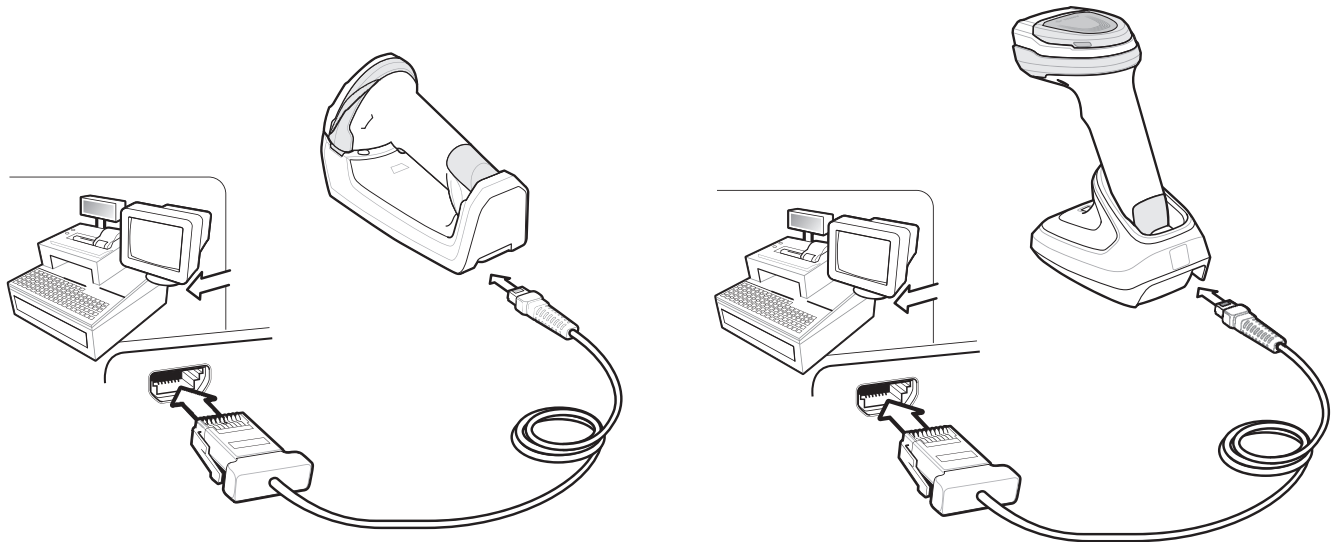

Figure 11-1 IBM Direct Connection
- ✓ **NOTE** Interface cables vary depending on configuration. The connectors illustrated in Figure 11-1 are examples only. The connectors may be different from those illustrated, but the steps to connect the cradle remain the same.